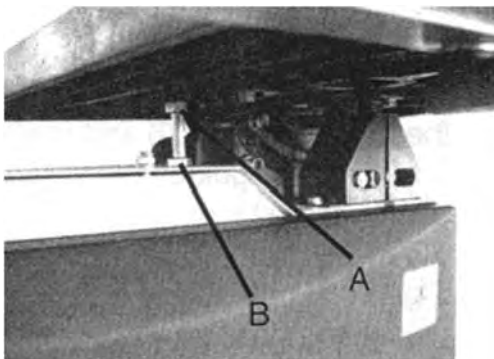

Fig. 8: 90°-Position of the sawing table
The table may be set at 90° to the saw blade by adjusting the table stop screw under the table. The table stop screw rests on the top of the lower wheel bandwheel housing (Fig. 8):
Step 1: First loosen the clamping nut (Fig. 8, Pos. A).
Step 2: Adjust the screw (Fig. 8, Pos. B) as follows, that the angle between table and band saw blade is 90°. (Check this with an angle if necessary).
Step 3: Retighten the clamping nut (Fig. 8, Pos. A), making sure that the setting is maintained.